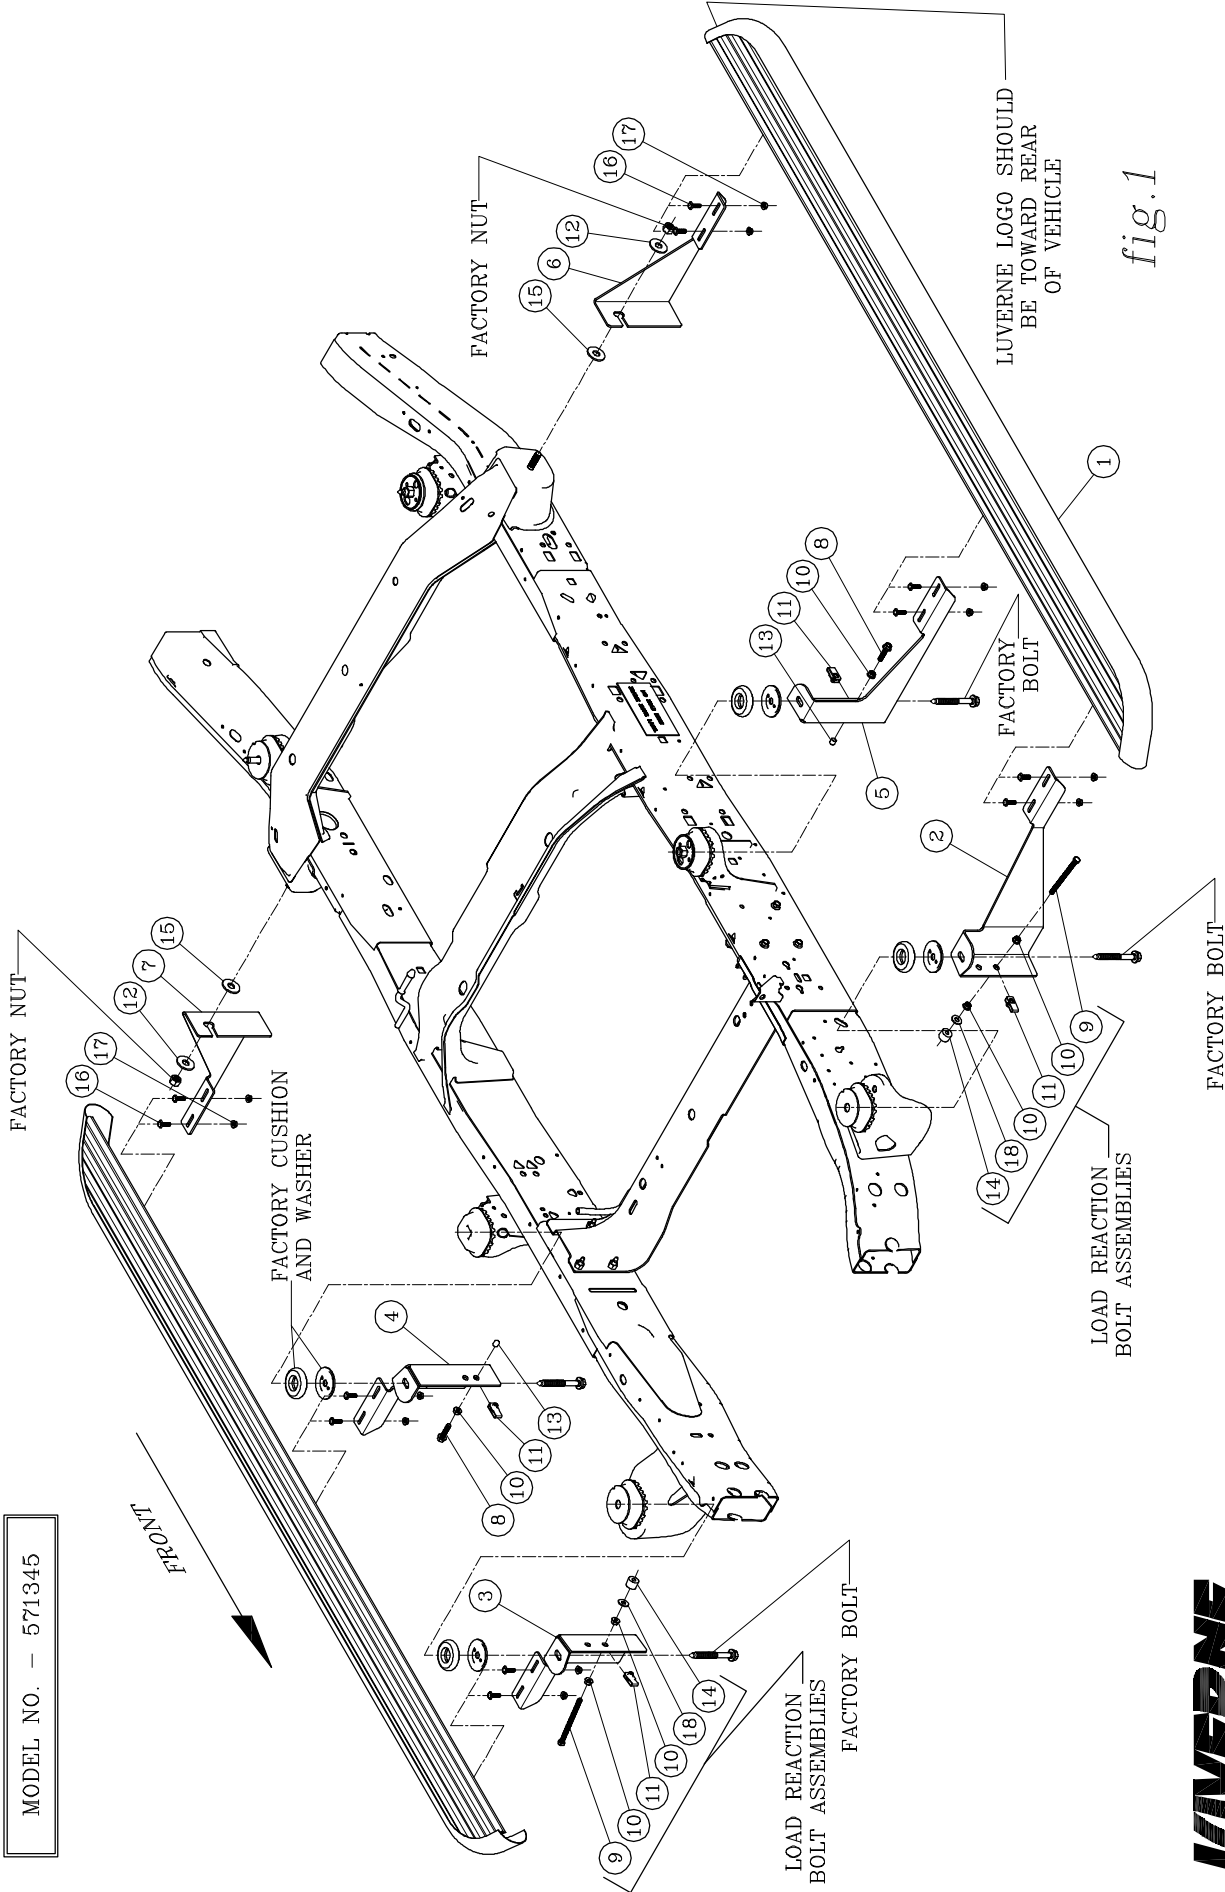

fig. 1
3. BEFORE ATTACHING THE O-MEGA STEPS TO THE BRACKETS, PLACE THE STEP PADS (ITEM #2) ON TOP OF THE STEP PLATES. USE THE TABLE ON SHEET #2, AS A GUIDE TO POSITION THE STEP PAD FOR YOUR PARTICULAR VEHICLE. WHEN INSTALLING THE PADS ON THE STEPS, DRILL (5) 1/8" HOLE USING THE STEP PAD AS A GUIDE. ATTACH WITH (5) 8-18X1/2" TEK SCREWS (ITEM #6) PROVIDED. REPEAT FOR ALL STEP PADS. **(NOTE: DUE TO THE SHORTNESS OF SOME BOXES, MOUNT THE BOX STEP PAD FIRST, APPROXIMATELY 1/2" FROM THE END CAP AND THEN MOUNT THE MIDDLE STEP PAD ACCORDINGLY.)**
5. INSTALL THE END CAPS (ITEM #3) AS SHOWN IN *fig. 1*, TIGHTENING THE NUTS TO 5 LB FT.
4. INSTALL A 3/8"-16 SERRATED FLANGE NUT (ITEM #10) ON THE 3/8"-16 X 5" HEX BOLT (ITEM #9) WITH THE FLANGE FACING TOWARD THE END OF THE BOLT AND TURN ON JUST SHORT OF THE HEAD. SCREW THE BOLT INTO THE U-NUT AND WHEN IT COMES THROUGH THE OTHER SIDE START ANOTHER FLANGE NUT FACING THE AS THE FIRST NUT. TURN THE NUT ON UNTIL THERE IS 3/4" PROTRUDING FROM THE FACE OF THE NUT, INSTALL A 3/8" FLAT WASHER (ITEM #18) AND THE .354 X 1.00 X .748 RUBBER WASHER (ITEM #14) INTO THE END OF THE BOLT. ADJUST THE LOAD REACTION BOLT ASSEMBLY SO THAT THE RUBBER CUSHION IS SNUG AGAINST THE FRAME AND TIGHTEN DOWN THE OUTSIDE FLANGE NUT. (LOAD REACTION BOLT ASSEMBLY) AS SHOWN IN *fig. 1*.
8. INSTALL A 3/8"-16 SERRATED FLANGE NUT (ITEM #10) ON THE 3/8"-16 X 1-3/4" HEX BOLT (ITEM #8) WITH THE FLANGE FACING TOWARD THE END OF THE BOLT AND TURN ON JUST SHORT OF THE HEAD. SCREW THE BOLT INTO THE U-NUT AND WHEN IT COMES THROUGH THE OTHER SIDE ADJUST THE LOAD REACTION BOLT ASSEMBLY SO THAT THE RUBBER PLUG IS SNUG AGAINST THE FRAME AND TIGHTEN DOWN THE OUTSIDE FLANGE NUT. (LOAD REACTION BOLT ASSEMBLY) AS SHOWN IN *fig. 1*.